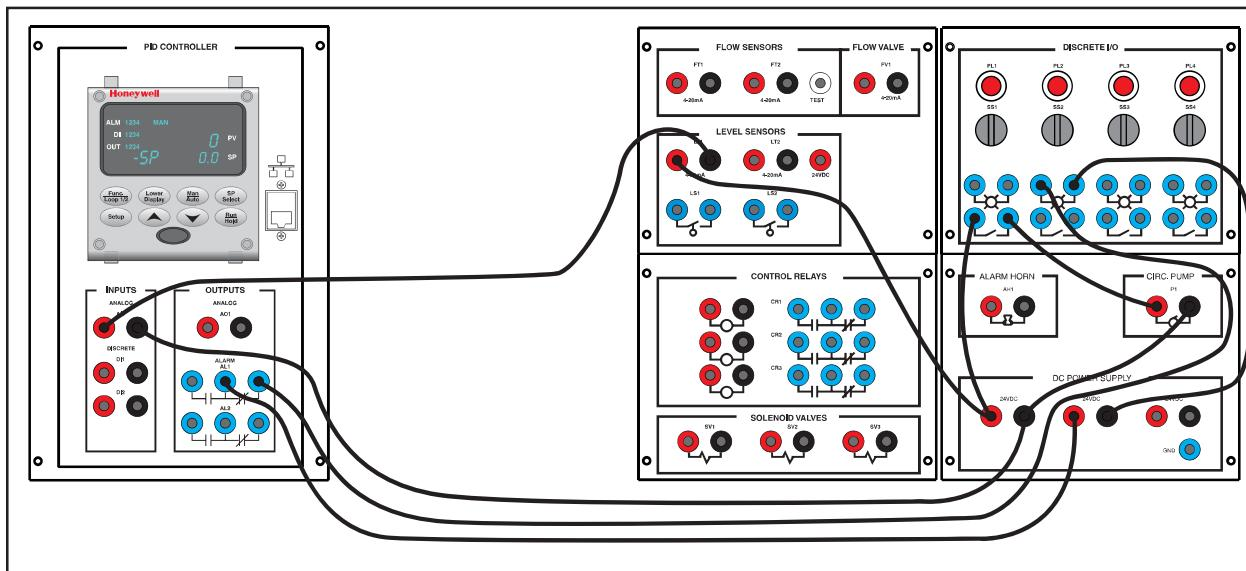

Figure 6-2. Level Circuit Using Controller Alarm Relays
- H. Connect the circuit shown in figure 6-2.